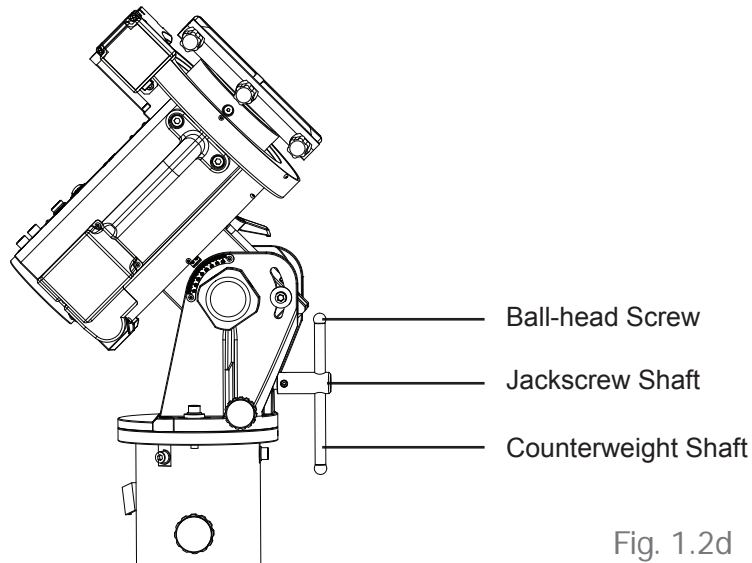

Fig. 1.2d
- Slide the jackscrew handle in the hole at the end of the jackscrew shaft. Apply two ball head screws on the handle. (Fig. 1.2d)